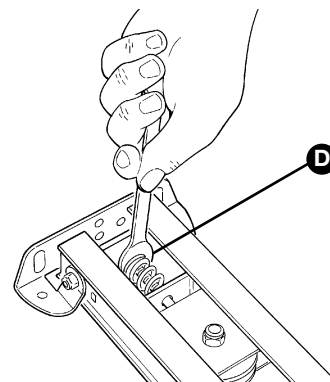

Figure 25
**8** Tension the belt by means of the M8 nut **[D]** (figure 25) until it is sufficiently taut.